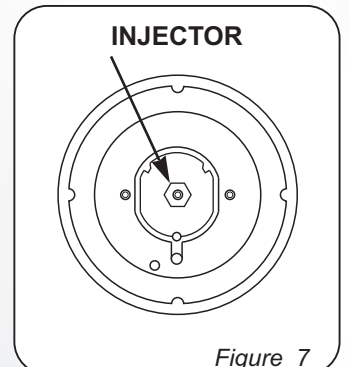

Figure 7
- insert on hexagonal spanner (7 mm) into the burner support (Figure 7)